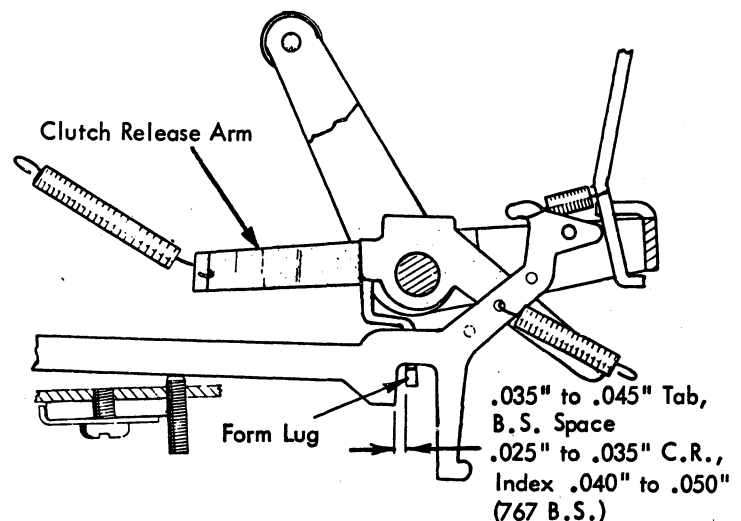

FIGURE 164. Clutch Release Arms
NOTE: The operational interposer springs should be placed in the center hole at the rear of the interposer. (Fig. 164).
7. Clutch Release Arm (Fig. 164) - The lug at the bottom of each clutch release arm should be formed so that it clears the interposer lug by .025" to .035" on Carrier Return, Index and .035" to .045" on Tab, Backspace, and Spacebar. On 767 printer BS adjust clearance from .040" to .050".